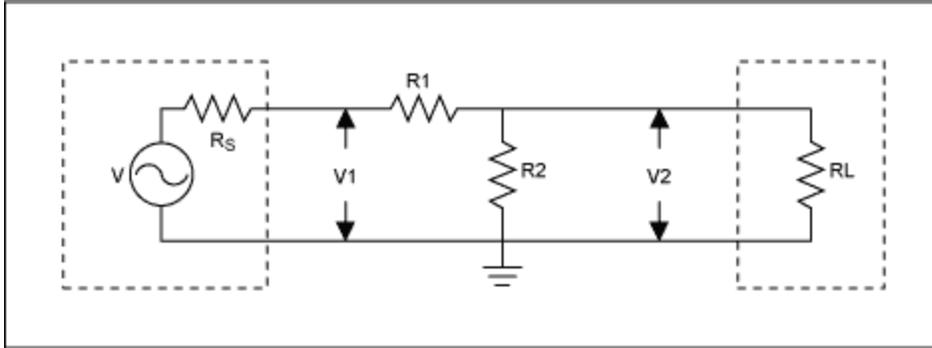
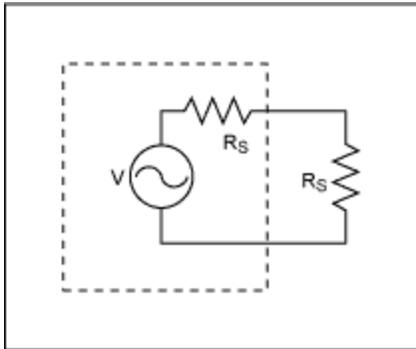
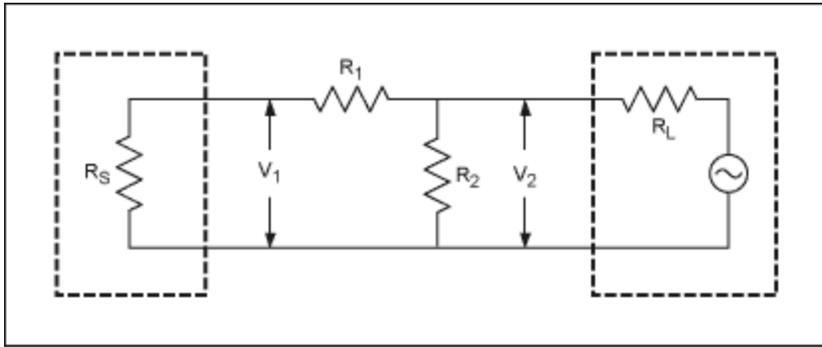

Figure 3. A MLP with a high-to-low-impedance signal path.
Figure 4. Power available to a perfectly matched load.
Figure 5. MLP with a low-to-high-impedance signal path.
**Figure 3** shows a MLP where the signal path is from high to low impedance, i.e., from the left side of the circuit to the right.
In CATV systems, signal level is typically measured in the voltage unit of dBmV [2], which is a decibel relative to 1mV. When signal level is expressed in voltage units, the voltage loss of a MLP is used. A general equation for MLP voltage loss is derived below, based on Figure 3 and assuming again that  $R_S > R_L$ .
By inspection of Figure 3:
A general equation for MLP power loss is derived below, based on Figure 3 and **Figure 4**, once again assuming that  $R_S > R_L$ . The equations derived show that power loss consists of voltage loss plus an impedance ratio term. Power loss is calculated as the ratio of power delivered to power available [3][4].
Power available,  $P_A$ , is the power available to a perfectly matched load, as shown in Figure 4.
By inspection of Figure 3, the power delivered to the load,  $P_D$ , is:
By inspection of Figure 3, for a perfectly matched MLP:
To maintain consistency in notation when discussing the low-to-high-impedance signal path, **Figure 5** shows  $R_S$  and  $R_L$  in the same circuit locations as in Figure 3, although the signal now flows through the MLP in the opposite direction.
By inspection of Figure 5:
From Figure 5, the power loss for matched source and load impedances is: